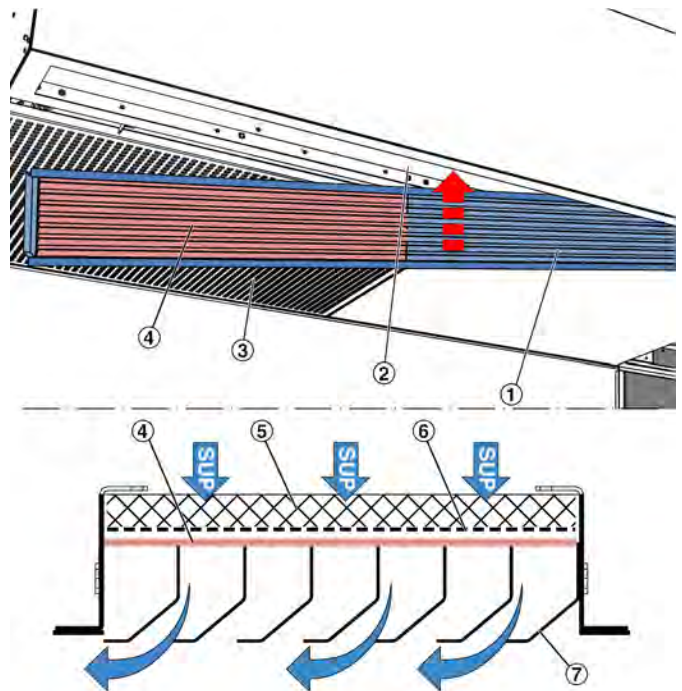

Fig. 24: Inserting the ventilation grille
22. ▶ Insert the supply air grilles (Fig. 24 /1) on both components by pushing them into the casing (Fig. 24 /2) at a slight angle and twisting them into position. When inserting, make sure that the grille with the blanking plate (Fig. 24 /4) is inserted in the area of the intake opening (Fig. 24 /3) and that the fins (Fig. 24 /7) face the room end. The filter flow (Fig. 24 /5) lies on the perforated plate (Fig. 24 /6).